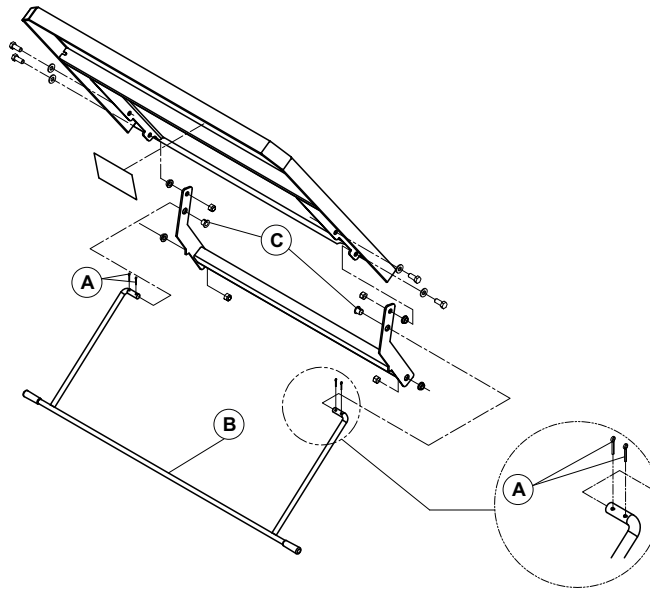

Figure 22 – Head section support arm
5. Using long needle nose pliers, remove the two inner cotter pins (A) that secure the support arm (B) in place (Figure 22). Save the cotter pins.
6. Remove the support arm and the nylon shoulder bushings (C) (Figure 22). Inspect the nylon shoulder bushings and replace if needed. Discard the support arm.